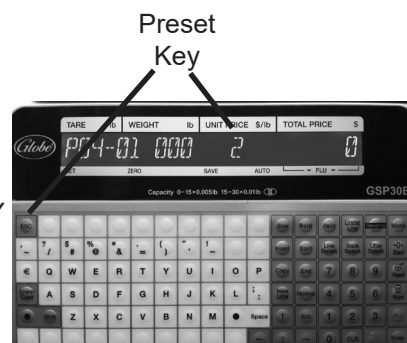

Figure 15-1
6. Press the desired preset key. See Figure 15-1.